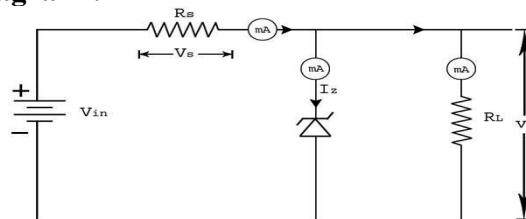

Figure 1: Zener Diode shunt regulator
1. Connect the circuit as in figure 1.